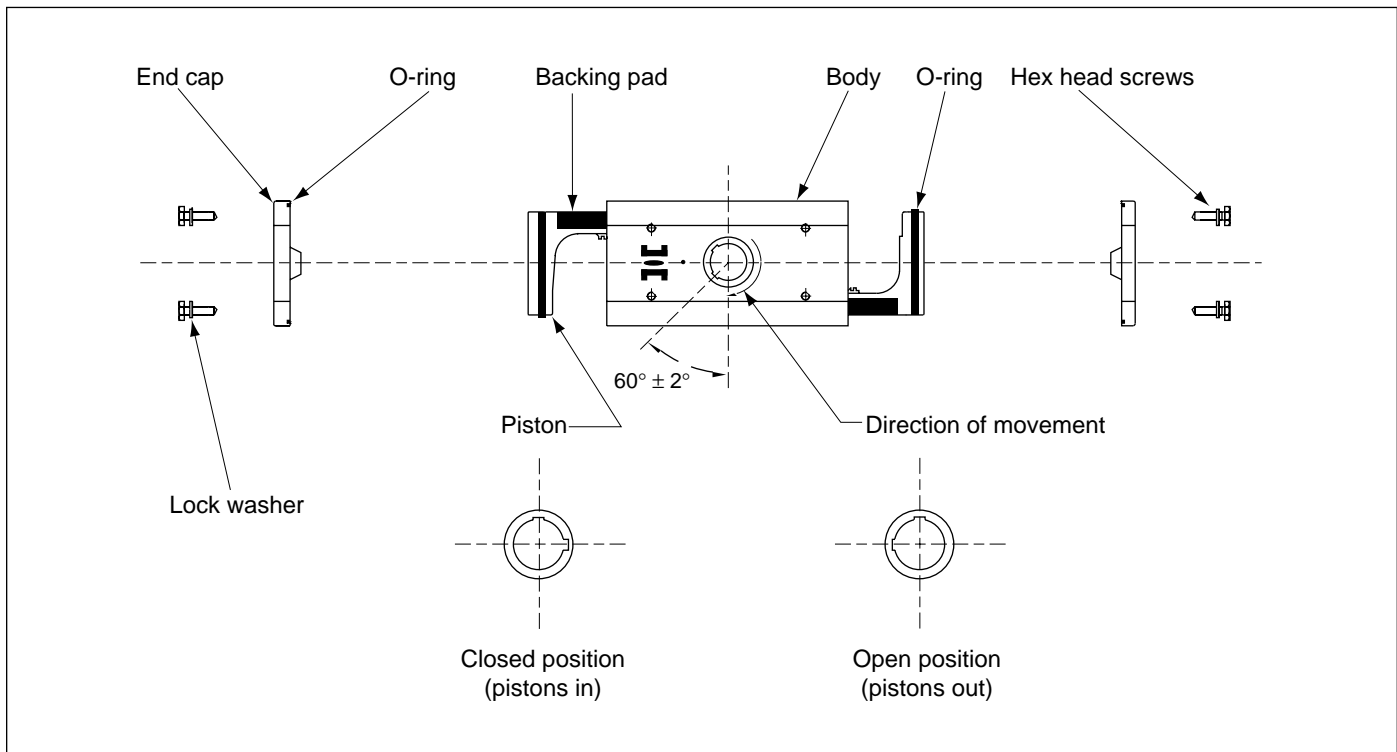
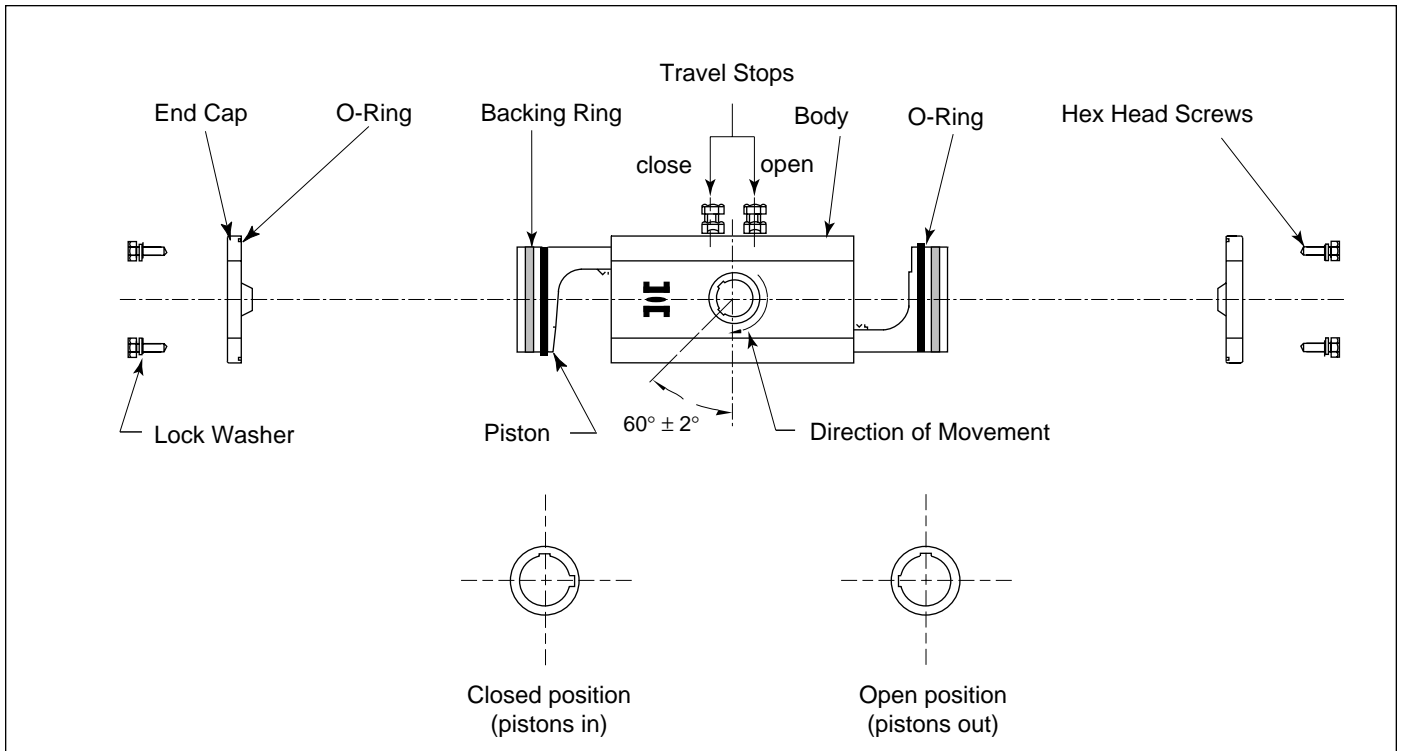

Figure 2 - Top view of Standard Double Acting Actuator Assembly - Model 003-036
Figure 5 - Top View of Standard Double Acting Actuator Assembly - Model 065-091
7. a. Orient the output shaft keyways as shown in Figures 2 and 3 on page 6 or Figures 5 and 6 on pages 7 and 8.
- c. Push pistons fully inward to achieve the full closed (CW) position.